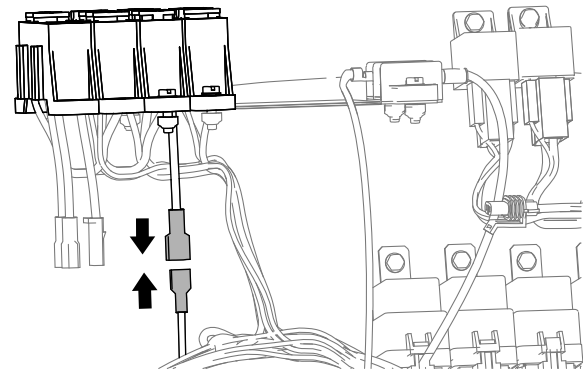

Figure 21
- For a machine with the bladed-attachment connector at the fuse block for the machine, connect the blade connector of the wire harness for the finishing kit to the socket connector of the fuse block for the machine (Figure 21).